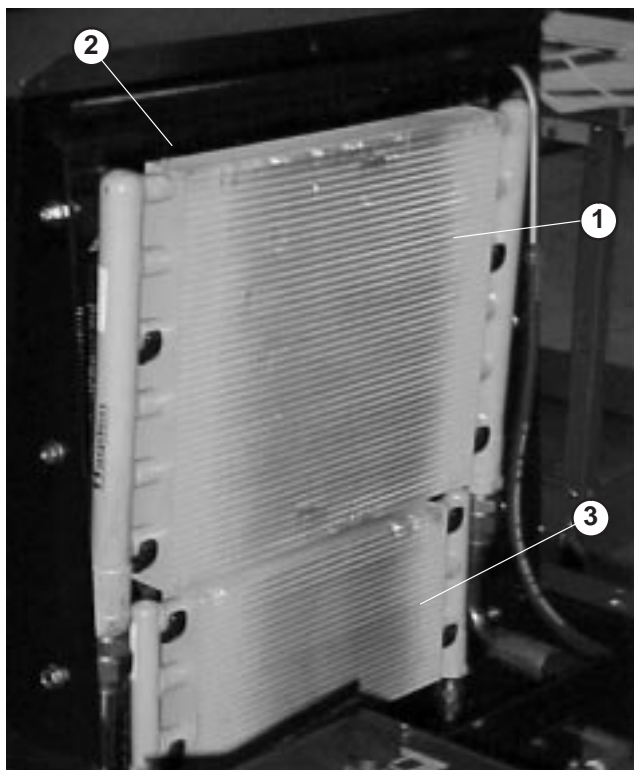

Figure 53
3. Slightly raise oil coolers and pivot forward (Fig. 53). Clean both sides of oil coolers and radiator area thoroughly with compressed air. Pivot oil coolers back into position.